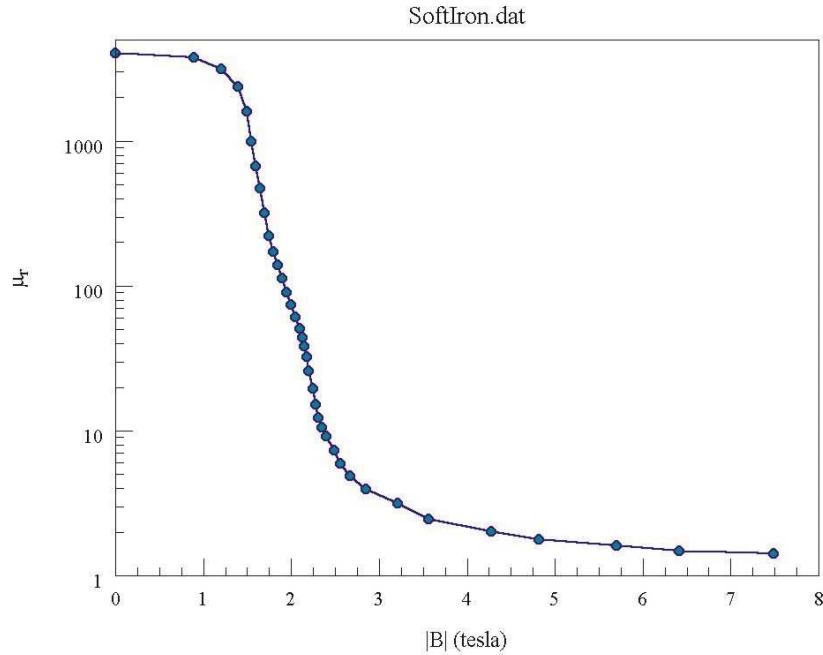

Figure 12: Variation of μ_r with $|\mathbf{B}|$ defined by the table SOFTIRON.DAT.
- Region 2. Iron, a non-linear material with relative magnetic permeability defined by values in the file **SOFTIRON.DAT** (Fig. 12).